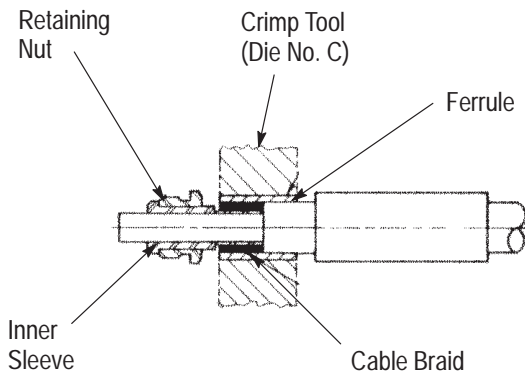

Figure 4
### 3.2. Crimping the Cable to the Inner Sleeve (Figure 4)
2. Position the loose unit on the dielectric as shown in Figure 4.